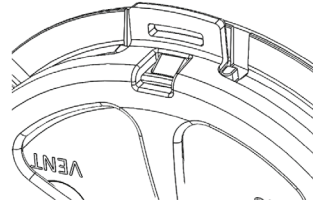

FIGURE 7
3.7 Install retaining ring onto collar so that snaps engage all around. **See Fig 7.**